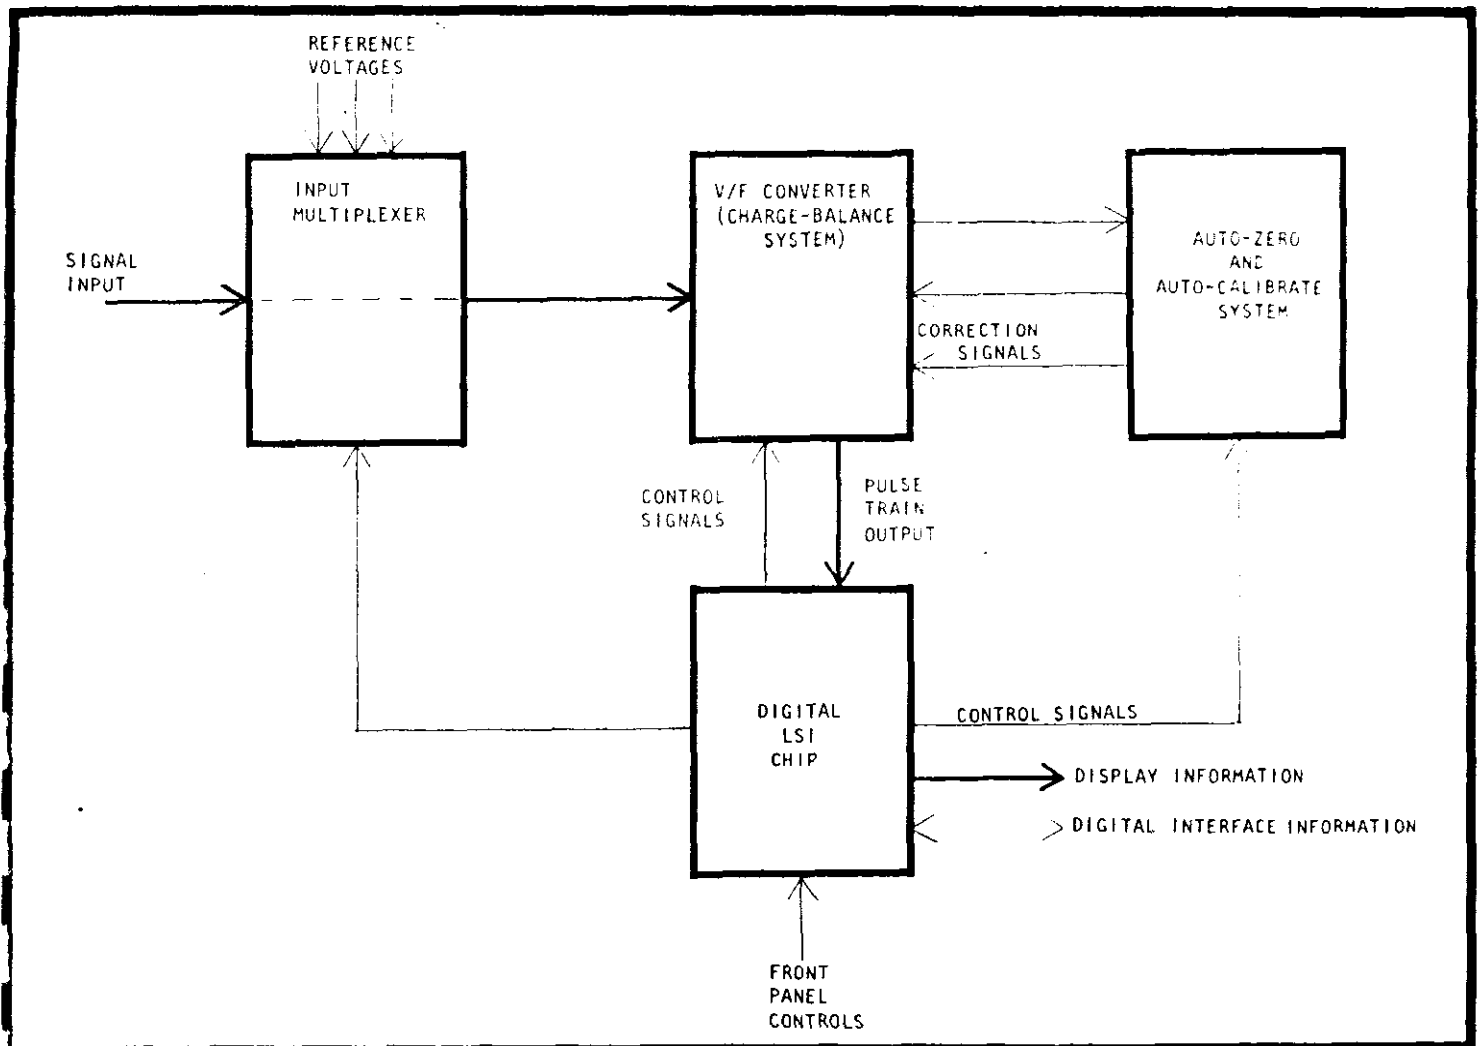

FIGURE 27. Basic Functional Blocks of A/D Converter.
1. The A/D converter, as its name implies, performs the function of generating a digital representation of an analog voltage applied to its input. The basic functional blocks involved in this process are shown in Figure 27. This A/D converter has several distinct modes of operation, broadly grouped as "signal-measurement mode" and "error-correction mode". The signal flow in the signal-measurement mode is shown in heavy lines in Figure 27. It can be seen that the transformation from voltage input to display output occurs in two major blocks. The first block (V/F Converter) generates a digital pulse train whose frequency is proportional to the input voltage. The second block (digital chip) contains circuitry which counts the incoming pulses for a fixed time period, producing a total count which is proportional to the average of the input voltage over that time period.